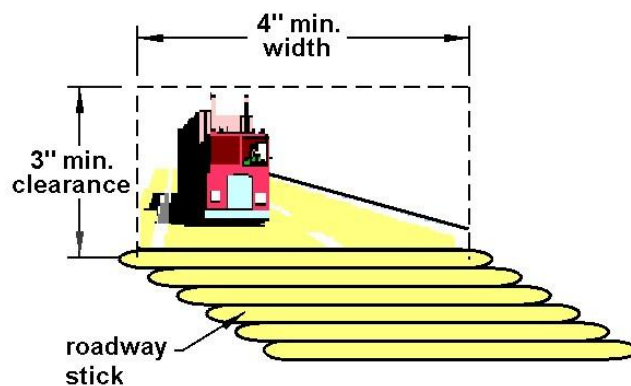

Figure 7 - Roadway Clearance Requirements (Not to Scale)
- Bridge roadway must have a minimum 4" width and a minimum 3" height clearance to accommodate traffic (toy truck). Refer to Figure 7.